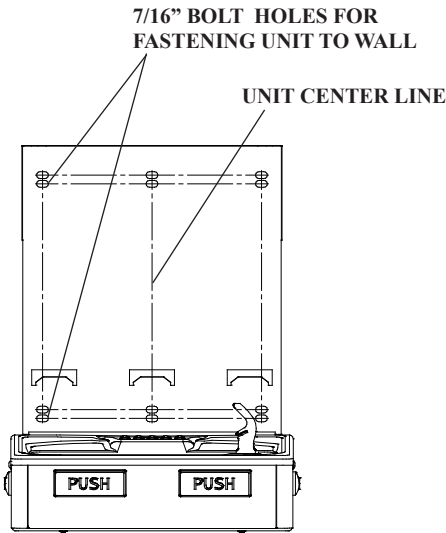

Fig. 6
- 4) Install wall mounting plate to wall using six (6) 7/16" oround mounting holes (mounting bolts not included) (See Fig. 6). Use appropriate fasteners for your wall type.